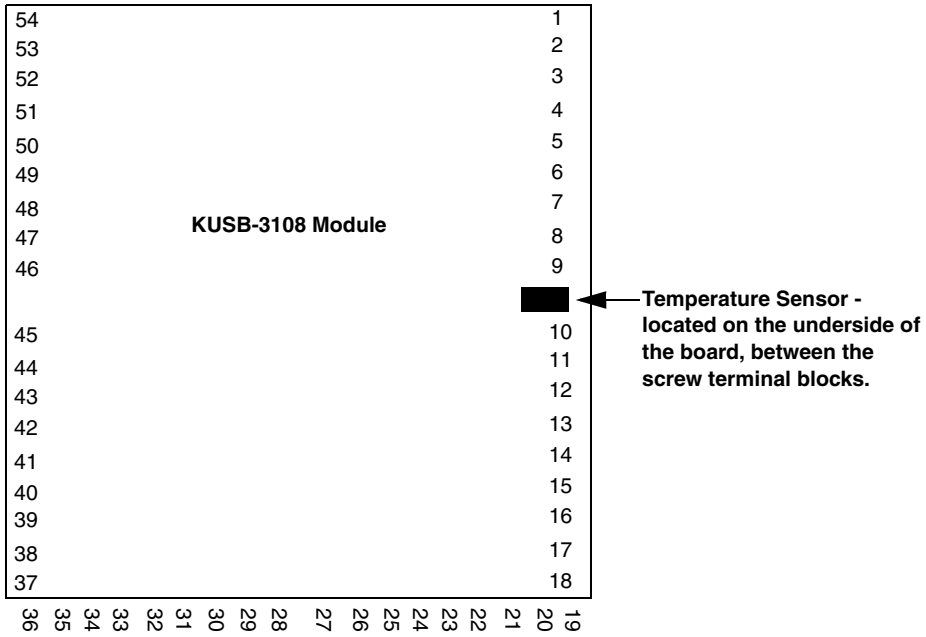

Figure 15: Temperature Sensor Location
5. Measure the room temperature at the temperature sensor of the board (see Figure 15) by taping a thermometer to the underside of the module between screw terminals 9 and 10, then multiply this value by 10 mV.